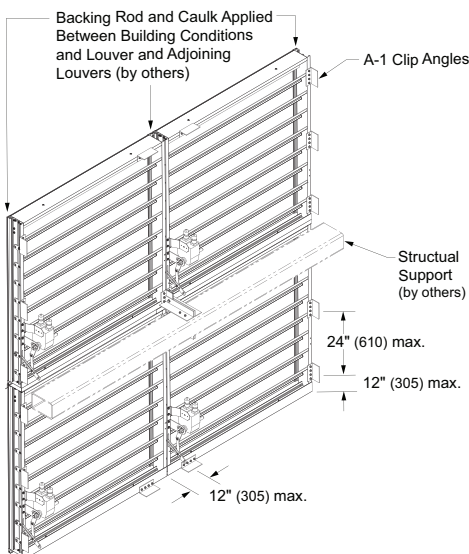
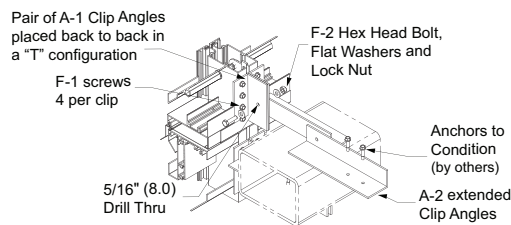

Fig. 3.1 Clip Angle - Multiple Section Louver
Fig. 3.3 Interior Jamb Detail
1. Locate all A-1 anchor clip angles as shown in fig. 3.1 (Clip angles are by others or optional by All-Lite.)
2. Install the lower left section (as viewed from the exterior) following steps 2-4 for single sections above. After this, if more than one section wide, install the next section to the right, following the procedure in steps 2-4 above. Moving from left to right and then bottom to top, install remaining sections and secure with clip angles as shown. See fig 3.1 and 3.4. At horizontal splice joints (if present), use A-2 extended angles to connect to a structural member (by others) behind the louver. For these splice connections see fig. 3.3.